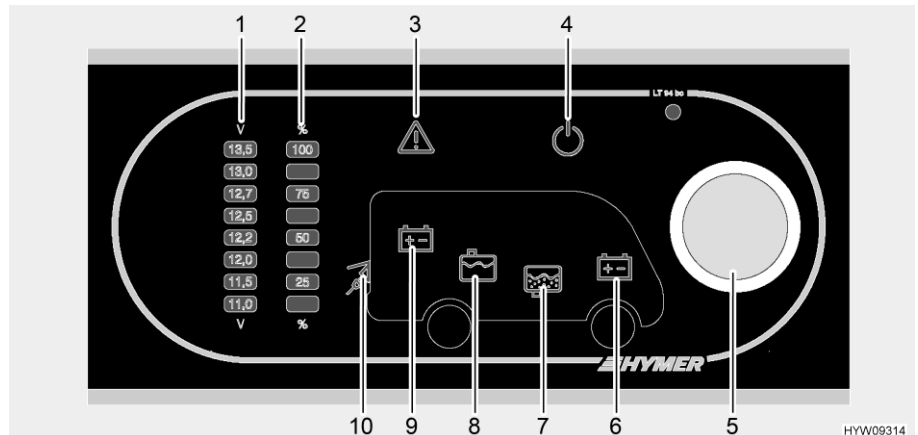

Fig. 105 Panel (LT 94)
The rotary knob (Fig. 105,5) switches the panel and the 12 V power supply to the living area on and off.
- Press the rotary knob (Fig. 105,5): The 12 V living area power supply is switched on. The 12 V indicator lamp (Fig. 105,4) lights up.
- Press the rotary knob (Fig. 105,5): The 12 V living area power supply is switched off. The 12 V indicator lamp (Fig. 105,4) goes off.
Use the rotary knob (Fig. 105,5) for reading the voltage of the living area battery as well as that of the starter battery. The voltage is displayed on the indicator scale for battery voltage (Fig. 105,1).
- Turn the rotary knob (Fig. 105,5) until the symbol for the desired battery lights up.
| | Living area battery voltage is displayed (Fig. 105,9) |
| | Starter battery voltage is displayed (Fig. 105,6) |
- Read the voltage from the indicator scale for battery voltage (Fig. 105,1).
Use the rotary knob (Fig. 105,5) for checking the fill level of the water tank or the waste water tank. The fill level is displayed on the indicator scale for the tank fill level (Fig. 105,2).
- Turn the rotary knob (Fig. 105,5) until the symbol for the desired tank lights up.
| | The level of the water tank is displayed (Fig. 105,8) |
| | The level of the waste water tank is displayed (Fig. 105,7) |
- Read the level from the indicator scale for the tank fill level (Fig. 105,2).
The Alarm warning light (Fig. 105,3) flashes if set limit values are exceeded or fallen below.
The Alarm warning light (Fig. 105,3) flashes if the battery voltage falls below 11 V. If the 12 V power supply is switched on, the relevant battery symbol (Fig. 105,6 or 9) also lights up and "11.0" starts flashing on the indicator scale for battery voltage (Fig. 105,1). Danger of total discharge.
The Alarm warning light (Fig. 105,3) starts to flash and the corresponding tank symbol (Fig. 105,7 or 8) lights up as soon as the water tank is empty or the waste water tank is full.
The 230 V indicator lamp (Fig. 105,10) illuminates whenever line voltage is available at the transformer/rectifier input.